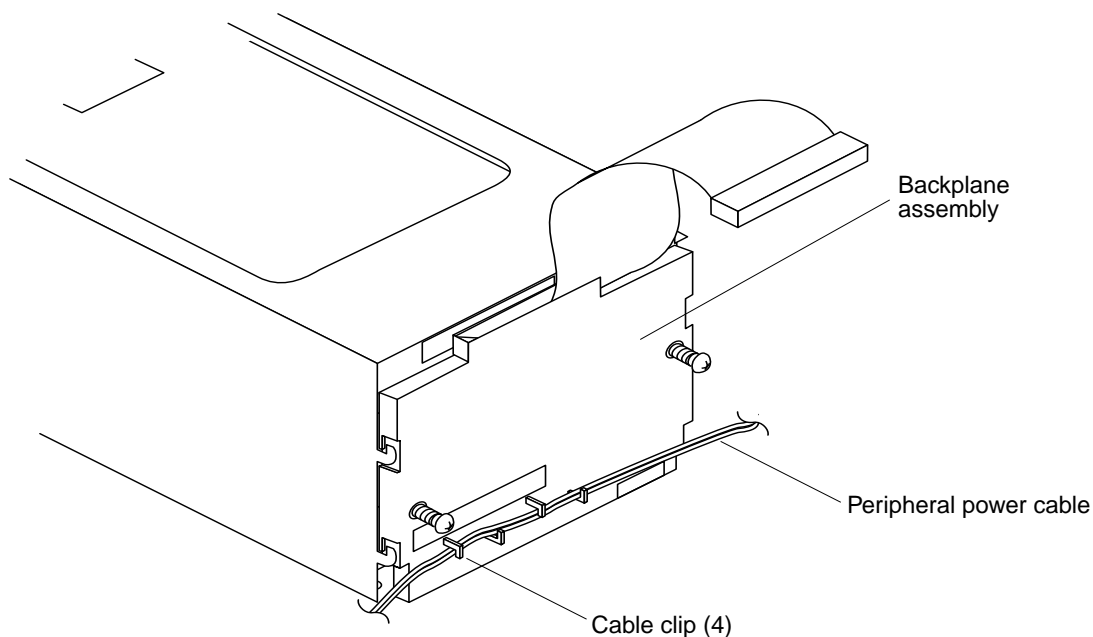

FIGURE 8-19 Backplane Assembly Peripheral Power Cable Routing
2. **Route the peripheral power cable through the backplane assembly cable clips (FIGURE 8-19).**